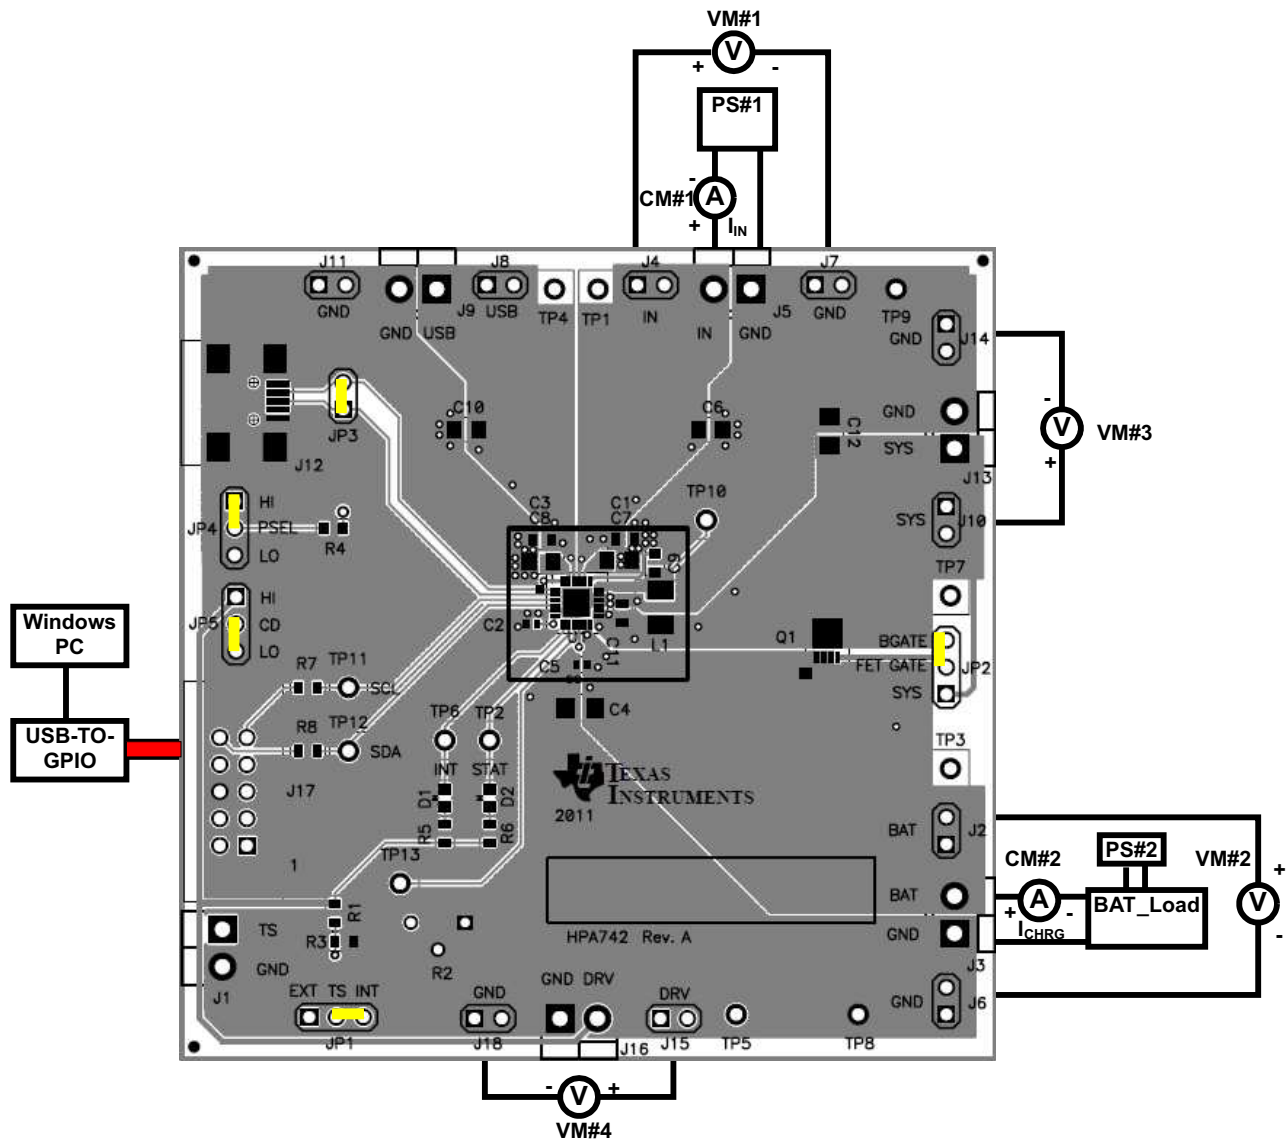

Figure 4. Original Test Setup for bq24160/161/163/168EVM (HPA742)
9. After the preceding steps have been performed, the test setup for HPA742 is configured as is shown in Figure 4